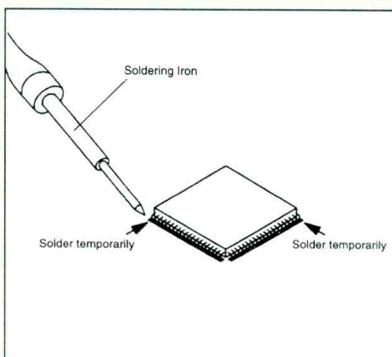

Figure 5.
1. Make sure that leads of the new IC match up properly with the corresponding lands, and then install the new IC fitting on the printed circuit pattern. Then temporarily solder each lead on the diagonal opposite corners of the IC (Figure 5).